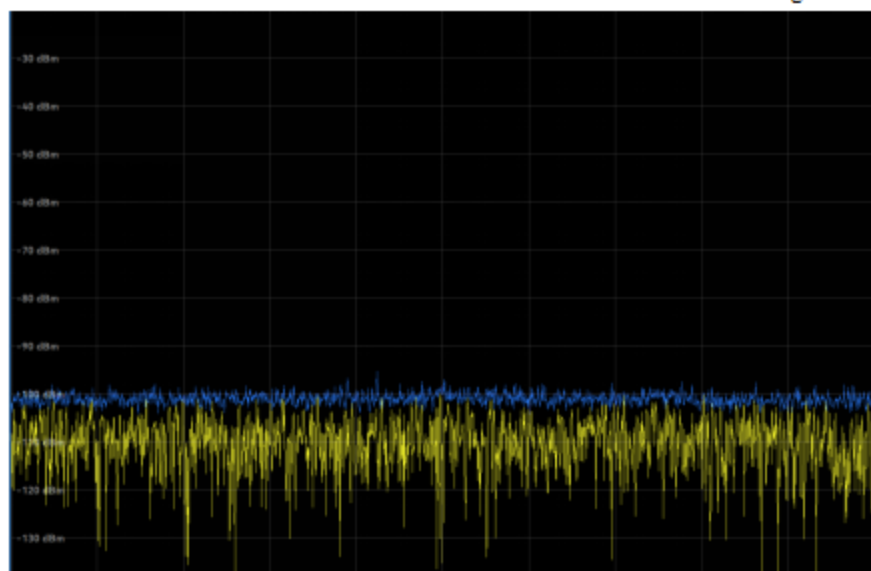

Figure 7.20 5G interference mode measurements
- Observation test results are shown in Figure 7.20: